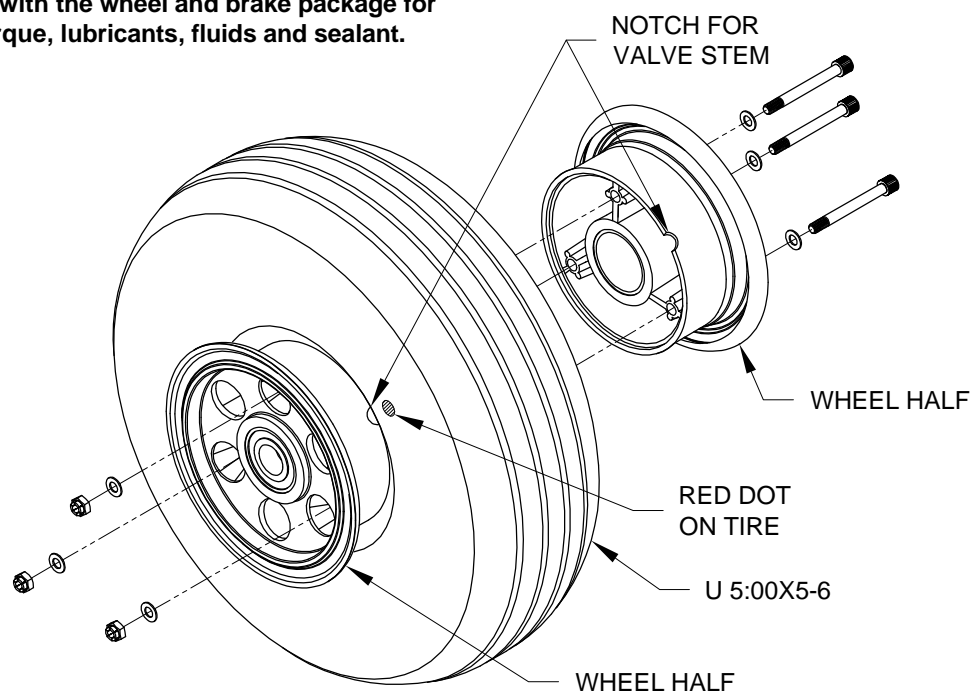

FIGURE 2: NOSE WHEEL AND TIRE ASSEMBLY
Step 4: Remove the nut and washers from the valve stem of the U 5:00X5-6IT Tube (not shown in Figure 2). Dust the tube and the inside of the U 5:00X5-6 Tire with talcum powder. The notch on the wheel half should be aligned with the notch for the valve stem on the opposite wheel half. The red dot on the tire is installed next to the valve stem. Bolt the wheel halves together, taking care that the tube is not pinched between the wheel halves.